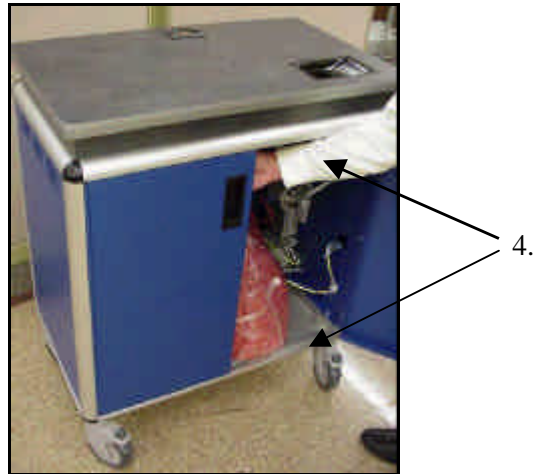

Figure 5: Releasing upper and lower pin on the left front door
4. To open the left front door, pull down on the pins to release the door (**Figure 5**).